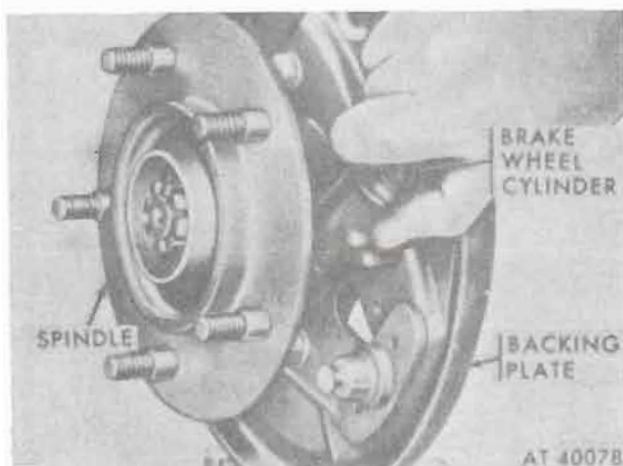

Figure 10-41. Brake wheel cylinder and backing plate.
m. Remove brake cylinder from backing plate (fig. 10-41).